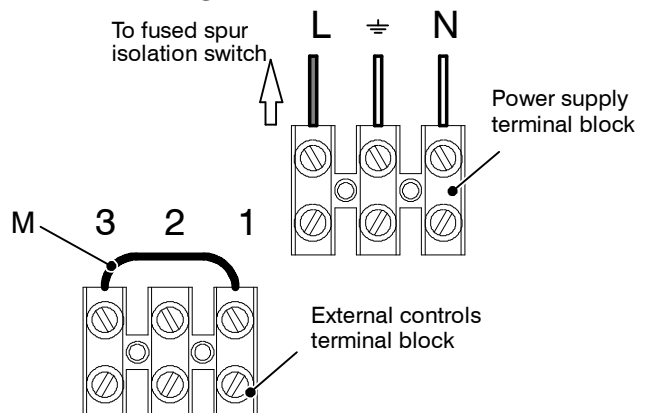

Fig. 6.12
- 6 Connect the electrical supply flexible cord coming from the fused spur isolation switch to the power supply terminal block of the boiler (Fig. 6.12) keeping the same connections for the live (brown wire) and the neutral (blue wire). External 3 A fuse or fused plug with same current rating is recommended. **Do not connect live wires to terminals to which the room thermostat must be connected.**
When connecting any type of external control, the link M in Fig. 6.12 must be removed.